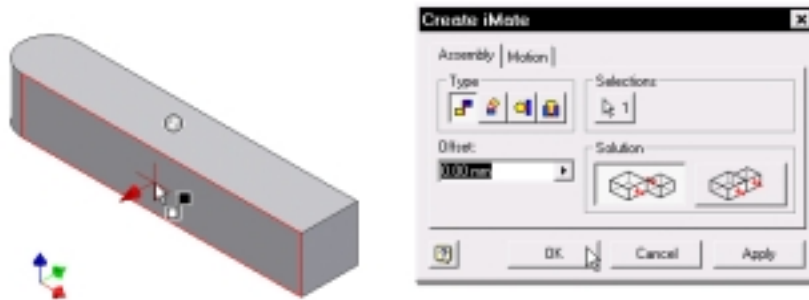

Figure 3-22
5. With reference to Figure 3-22, select the face and select the OK button.